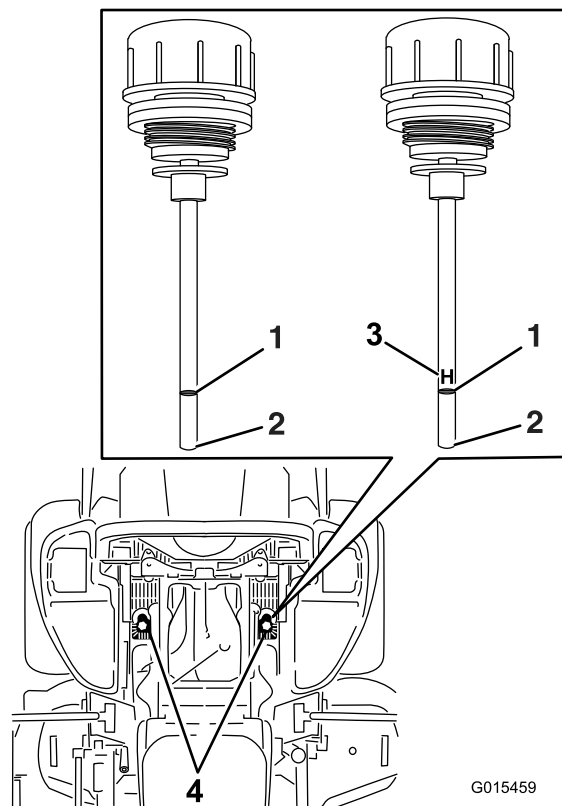

Figure 89
5. Clean the area around the dipsticks of hydraulic-system reservoirs (Figure 89).
6. Remove 1 dipstick from the hydraulic reservoir (Figure 89).
8. Remove the dipstick and look at the end (Figure 89).